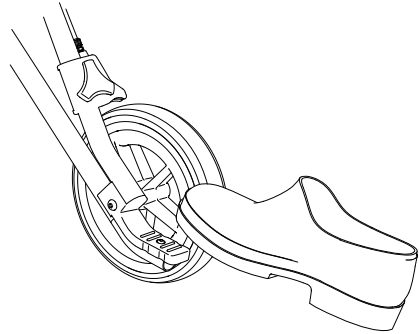

Fig. 4
2. Gently press the curb climber with your toe (fig. 4). This slightly lifts the front wheels of the rollator.